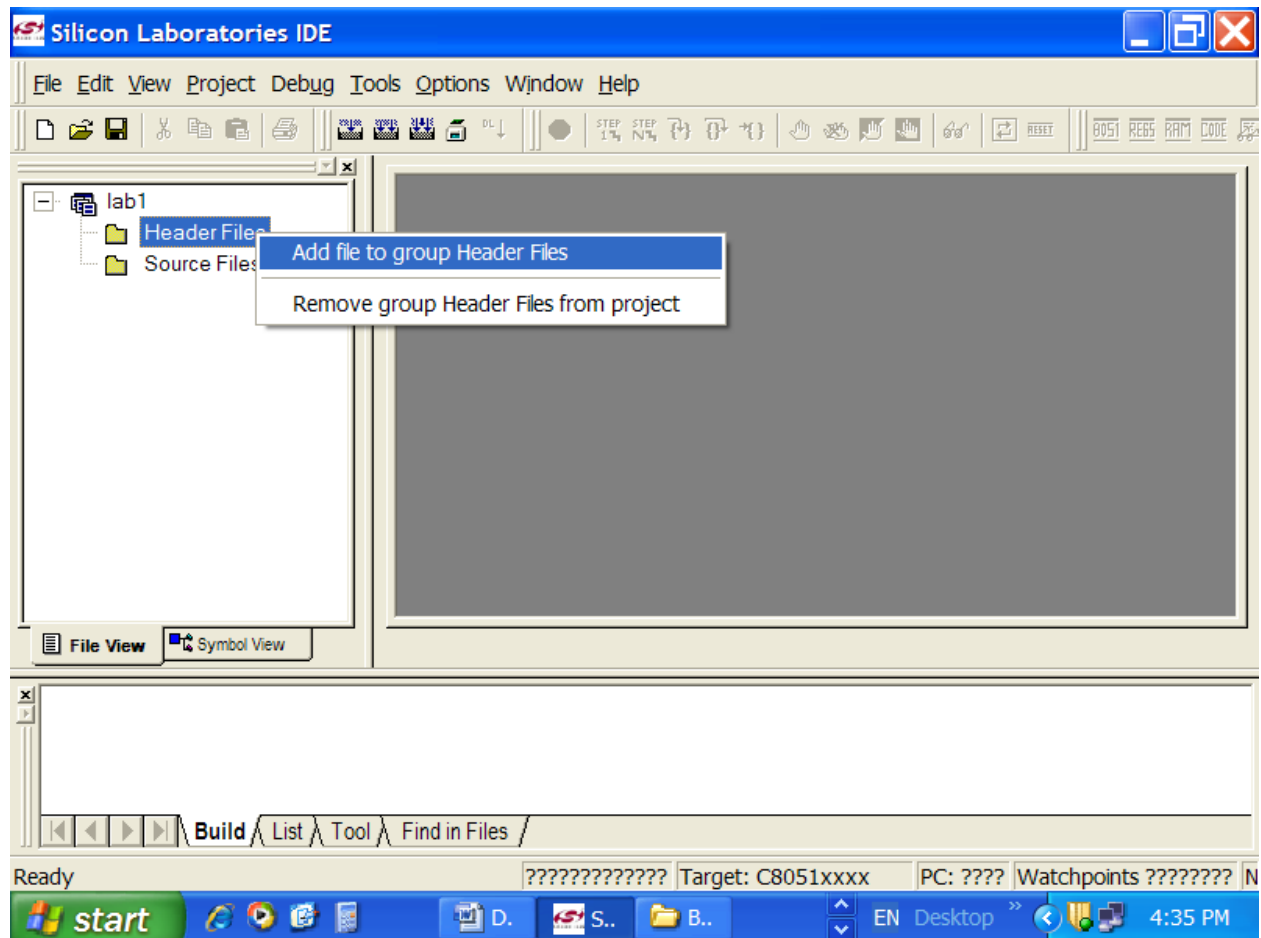
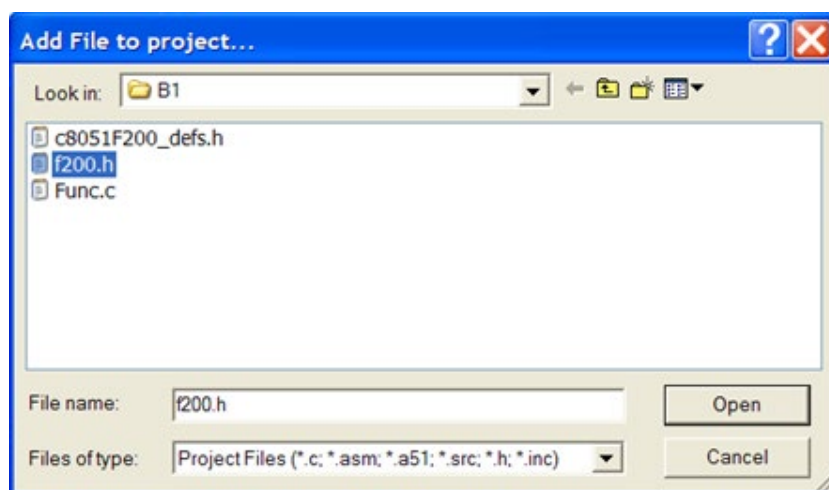

Figure 5.1
Figure 5.2
- 5.1 To add "F200.h" to the project, right-click on the folder "Header Files" and then, on the popup menu, select item "Add file to group Header Files", see figure 5.1. You should see dialog "Add File to project..." (see figure 5.2). In it, navigate to your working directory, select header file "F200.h" and click button "Open".